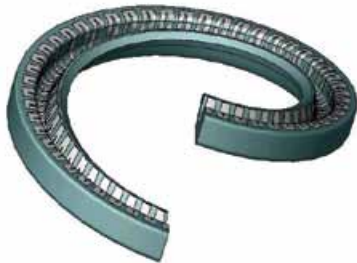

Figure 17 — Split Seal Separation
- Split the seal along the axis of rotation, as shown below in Figure 17, and place the seal around the shaft.